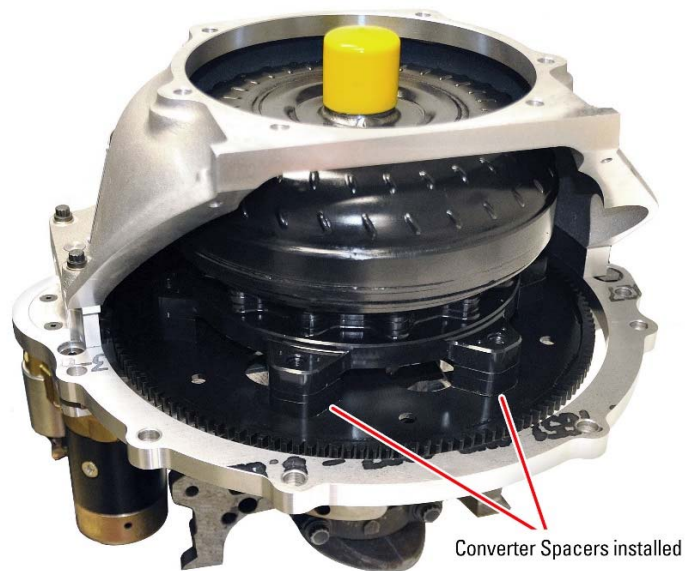

Figure 6: Installed Torque Converter (spacers shown are for lock-up converter)
Step 7: Hold a round, .850" thick converter pad spacer over one of the mount holes in the Flexplate, then thread a Torque Converter Bolt (#13) through the Flexplate, through the spacer, and into the Torque Converter. Rotate the engine to gain access to the next mounting hole and repeat this process until all six (6) Torque Converter Bolts are in place. Tighten all bolts down. Figure 6 below shows a properly installed Torque Converter.